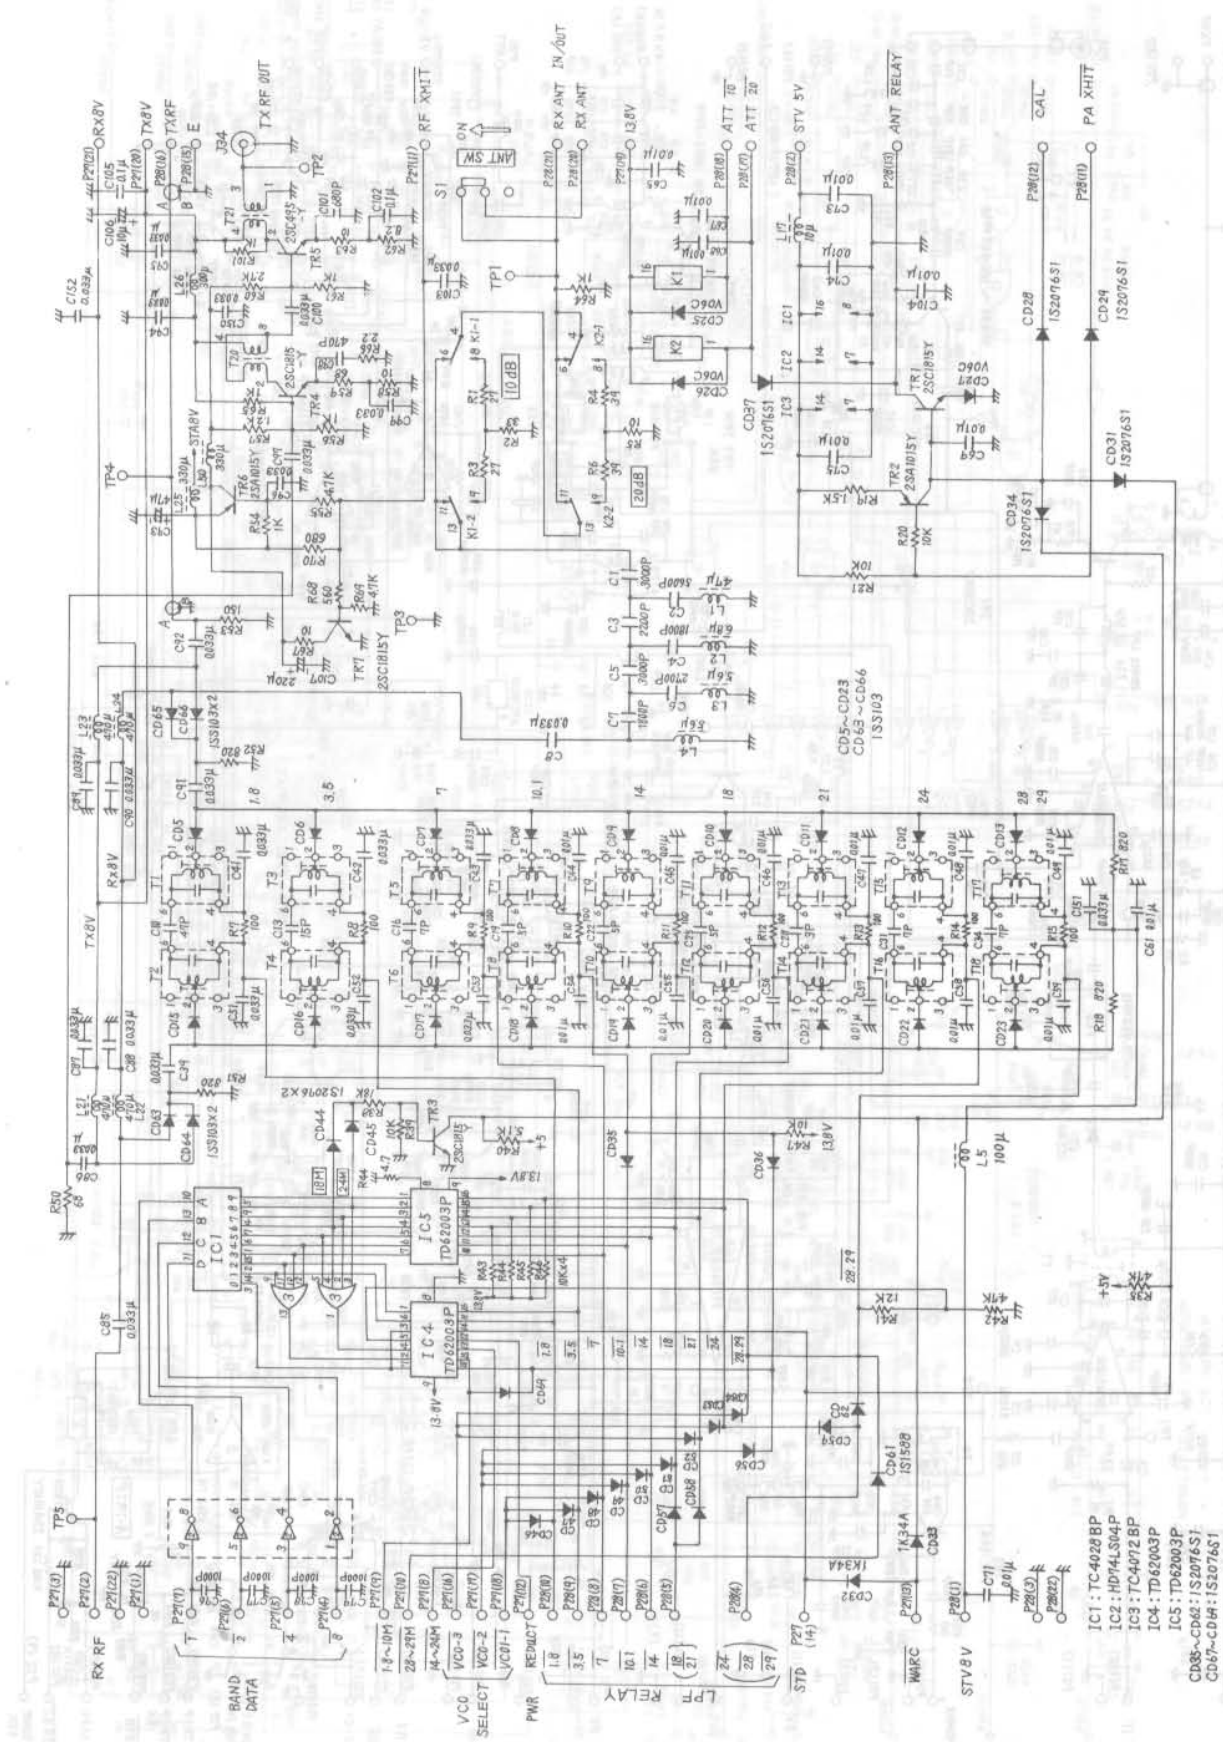

FIGURE 7.2 CFL-175 BPF UNIT CIRCUIT DIAGRAM
- FIGURE 7.2 CFL-175 BPF UNIT CIRCUIT DIAGRAM